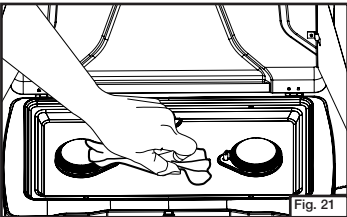

Fig. 21
- Wipe stove and stove griddle (if equipped) clean with a soft cloth and mild dish detergent. Do not use abrasives. (Fig. 21)